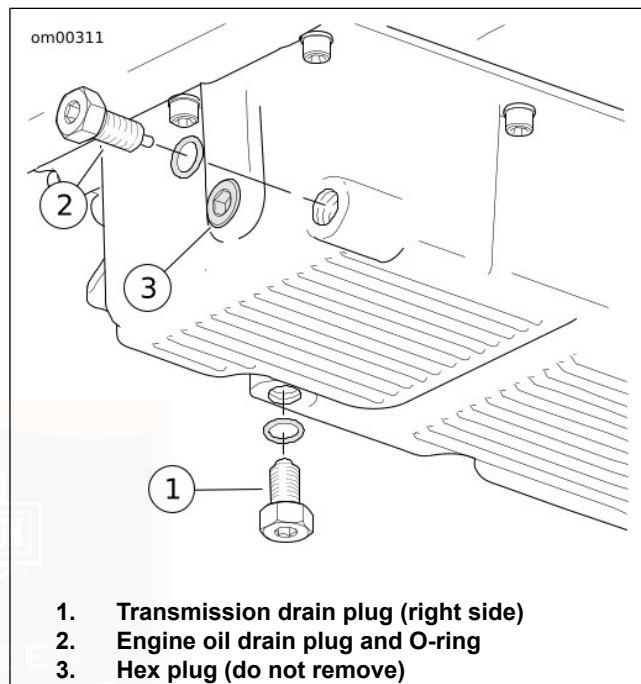

Figure 47. Oil Pan
3. See Figure 47. Remove the oil drain plug (2) and O-ring. Allow oil to drain completely.